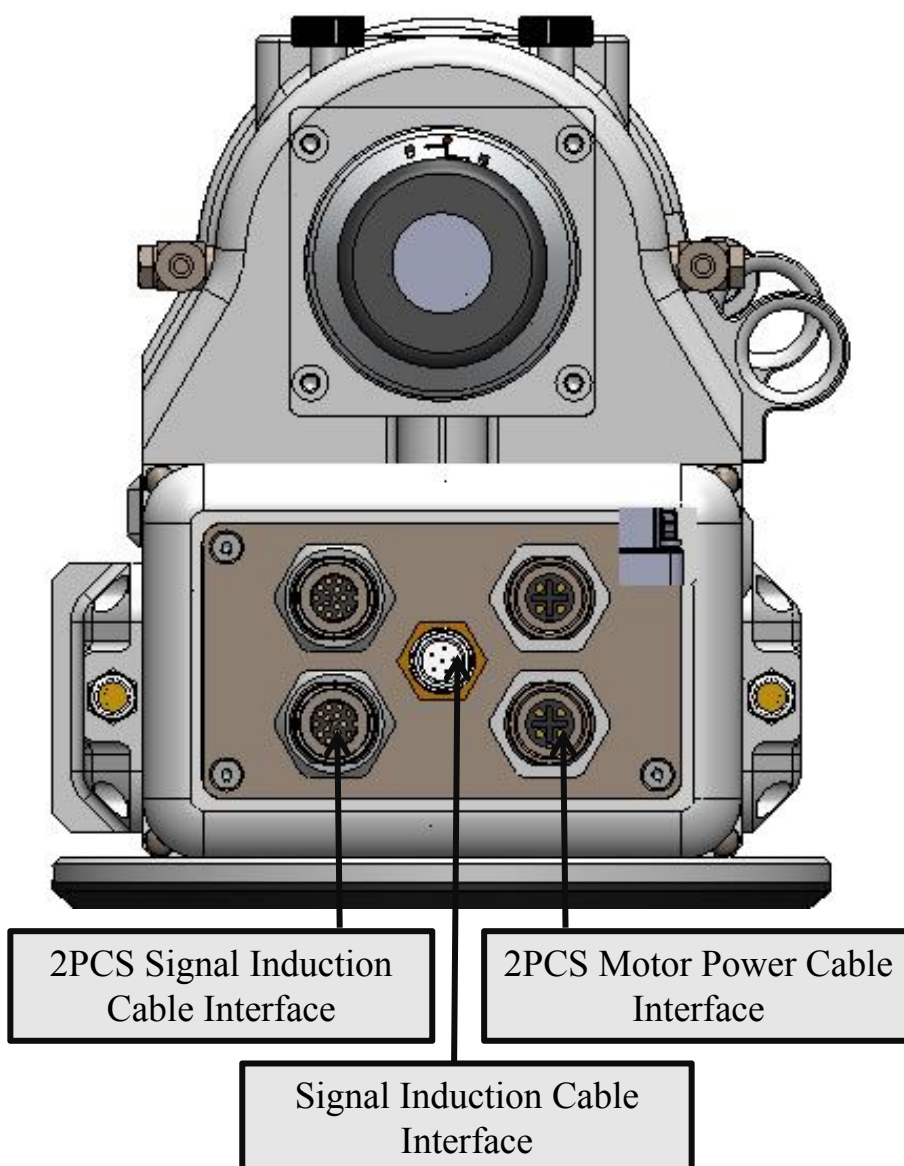

Figure 1.8
① When inserting and removing the aviation plug, cut off the power; otherwise, the motor may be burnt out. When connecting the power line and the signal line, pay attention to the notch position to avoid damage to the pin, as shown in Figure 1.8.